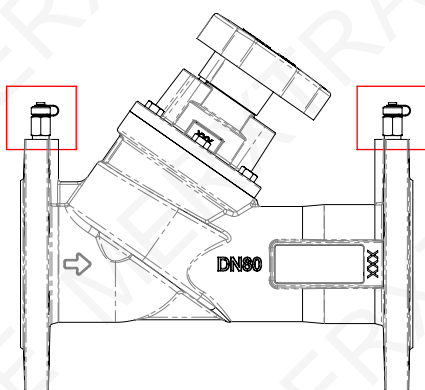

FIG. 2A
- Pressure test plugs are self-sealing. Unscrew the pressure test plug cap and insert the probe (fig. 2A).